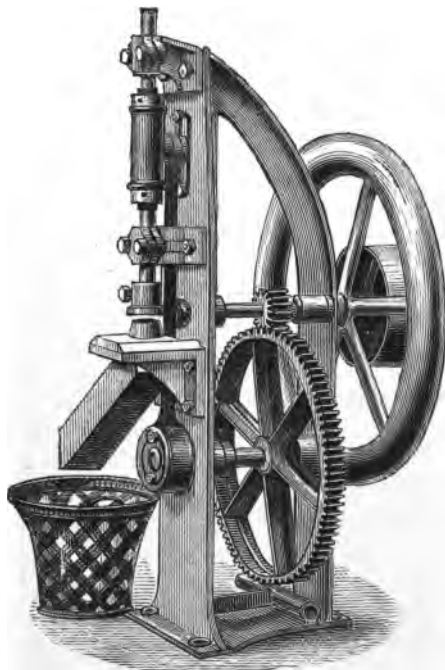

Fig. 74.—LIFT CUTTING MACHINE.
**Lift Cutting Machine.**—This machine (Fig. 74) is specially adapted for cutting lifts, small pieces of leather, mill board, linen, or other material. Lifts, top-pieces, washers, &c., are cut much more readily by this machine than by the ordinary eccentric press. Its knife is a fixture, while that of the press is loose, and requires to be shifted after each cut. The Lift Cutting Machine is made in two ways, either with the knife stationary and fixed edge upwards on a bed, or edge downwards on what may be called the pressure rod, the upward and downward movement of which it of course follows. In the first, the lifts, top-pieces, &c., fall as cut through the knife into a basket beneath, while in the latter, the lifts pass upwards through the knife and are carried by means of a shoot to a similar destination. It can be worked by steam power or treadle.